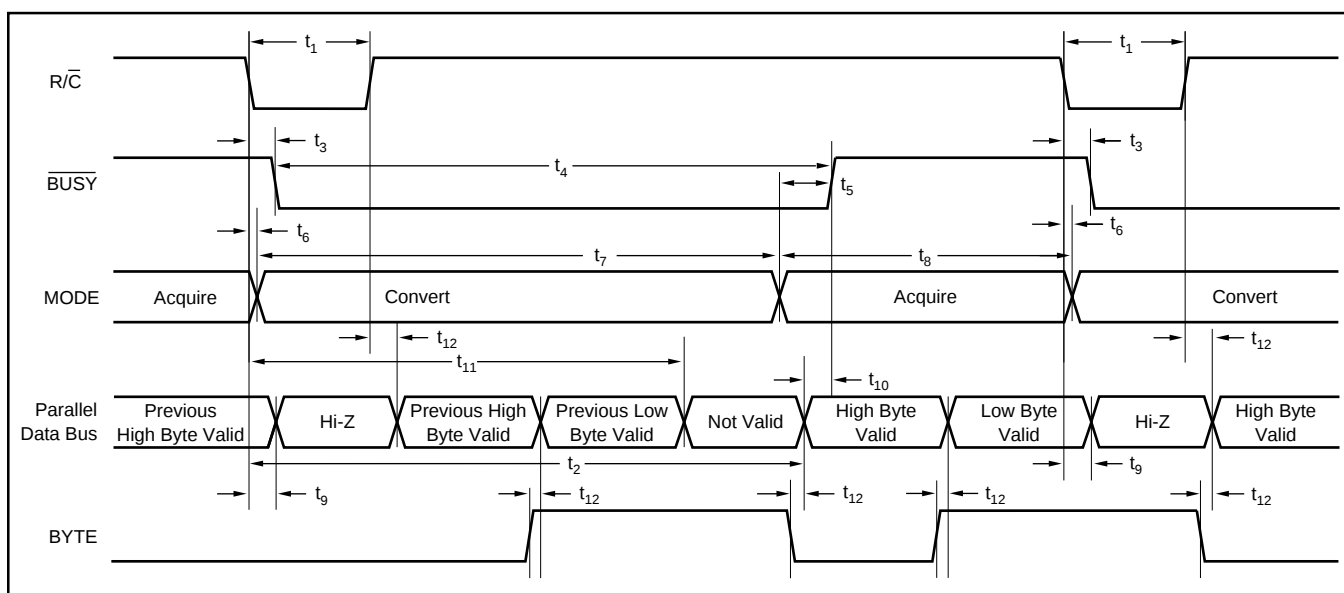

FIGURE 2. Conversion Timing with Parallel Output ($\overline{\text{CS}}$ and DATACLK tied LOW, $\overline{\text{EXT/INT}}$ tied HIGH).
The ADS7806 will begin tracking the input signal at the end of the conversion. Allowing 25µs between convert commands assures accurate acquisition of a new signal. Refer to Tables II and III for a summary of $\overline{CS}$, $R/\overline{C}$, and $BUSY$ states, and Figures 2 through 6 for timing diagrams.
NOTE: (1) See Figures 2 and 3 for constraints on data valid from conversion 'n – 1'.
After conversion 'n' is completed and the output registers have been updated, $\overline{\text{BUSY}}$ (pin 24) will go HIGH. Valid data from conversion 'n' will be available on D7-D0 (pins 9-13 and 15-17). $\overline{\text{BUSY}}$ going high can be used to latch the data. Refer to Table V and Figures 2 and 3 for timing constraints.
After conversion 'n' has been initiated, valid data from conversion 'n - 1' can be read and will be valid up to $12\mu\text{s}$ after the start of conversion 'n'. Do not attempt to read data beyond $12\mu\text{s}$ after the start of conversion 'n' until $\overline{\text{BUSY}}$ (pin 24) goes HIGH; this may result in reading invalid data. Refer to Table V and Figures 2 and 3 for timing constraints.